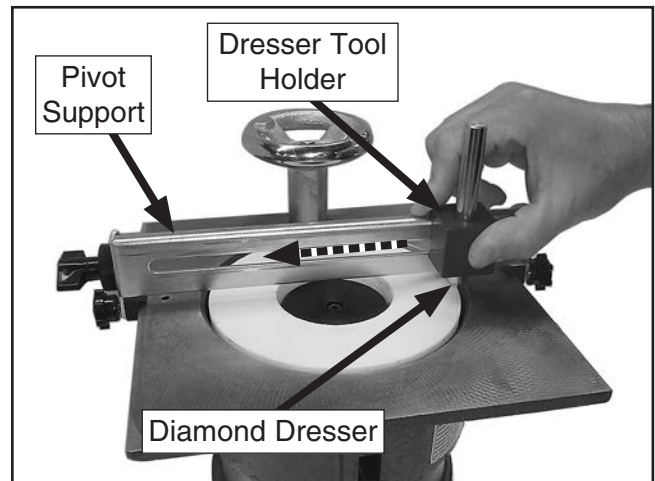

Figure 33. Diamond dresser mounted on pivot support above grinding wheel.
3. Attach the pivot support (see **Figure 33**) to the grinder table (refer to instructions on **Page 19**).
4. Place the dresser tool holder on the pivot support, as shown in **Figure 33**, insert the diamond dresser into the holder until the tip makes contact with the wheel, then tighten the set screw in the holder to secure the dresser tool.